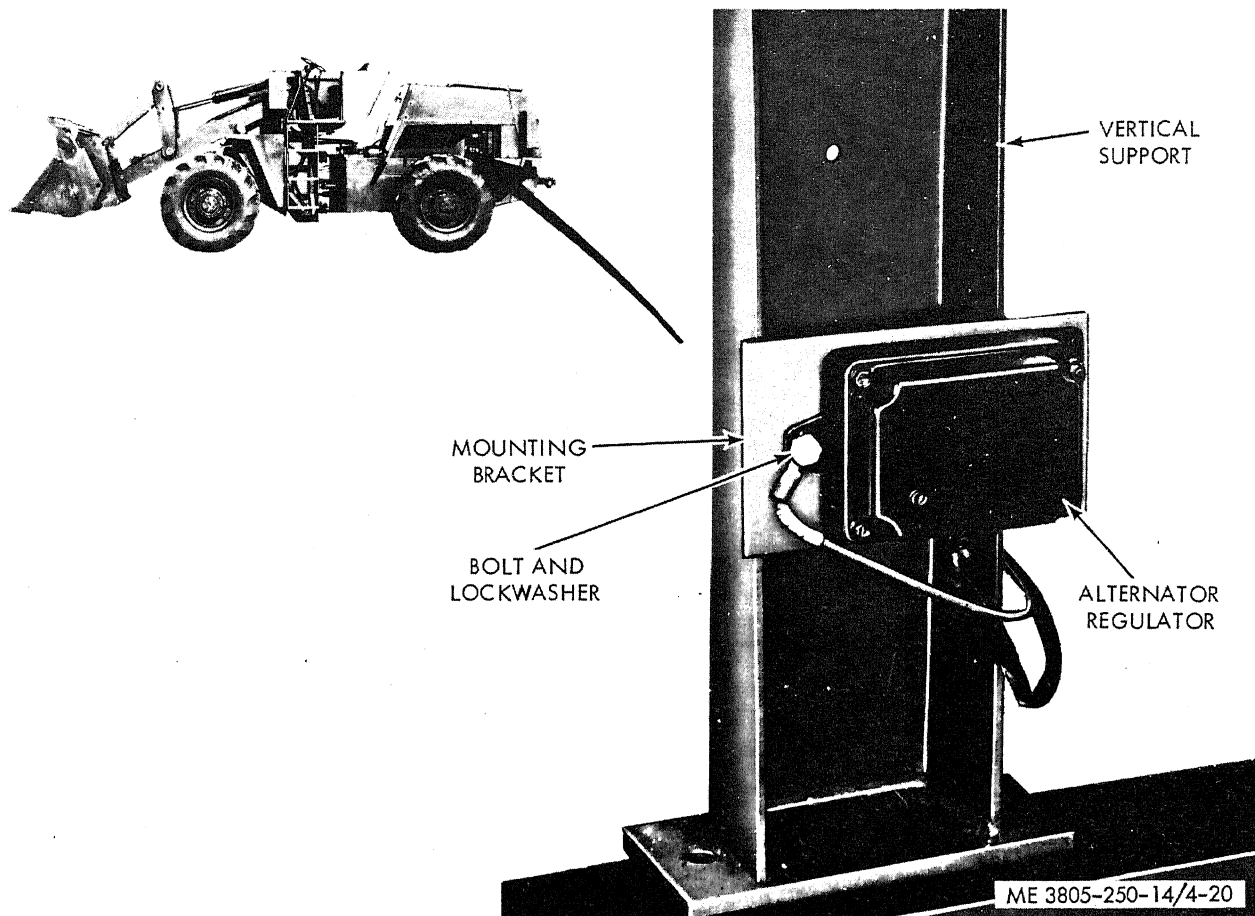

Figure 4-20. Alternator regulator, removal and installation.
- (1) Remove the side engine panel.
- (2) Remove bolts securing the vertical support to the hood and frame, and rotate the support 180 degrees.
- (3) Remove three bolts and lockwashers securing the regulator (fig. 4-20) to its mounting bracket and disconnect electrical leads. Remove the regulator from the loader.
(1) Position the regulator on its mounting bracket and secure with three nuts, bolts, and lockwashers (fig. 4-20). Connect electrical leads.
(2) Rotate the vertical support into position and fasten to frame and hood.
(3) Install the side engine panel.